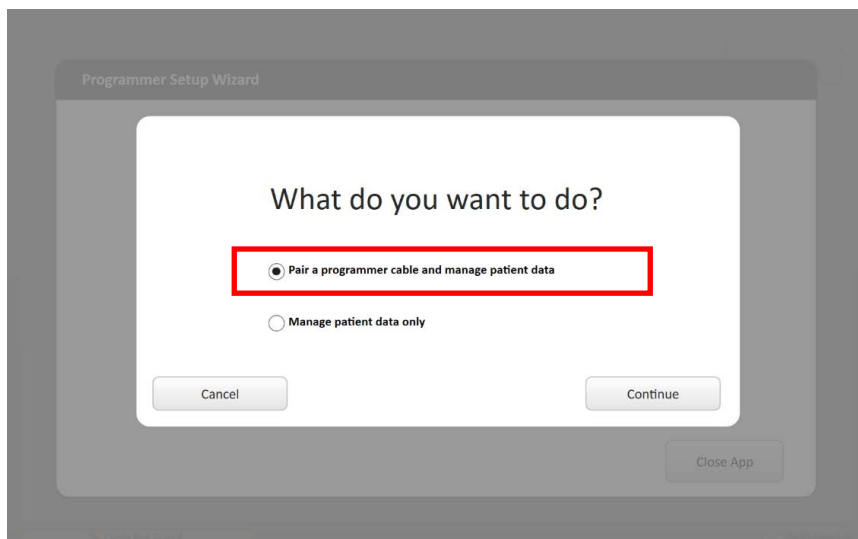

Figure 3-2. Program Patients and Use Inspire SleepSync Option
- e. On the next screen (Figure 3-2), select the **Pair a programmer cable and manage patient data** option, and then select **Continue**.